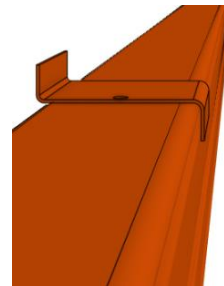

Figure 3
The Z Clips sit on top of the Beams on the undershelf Level as shown in Figure 3. Use two (2) Z-Clips per beam (Four (4) per level). These are used to hold the particle board in place.